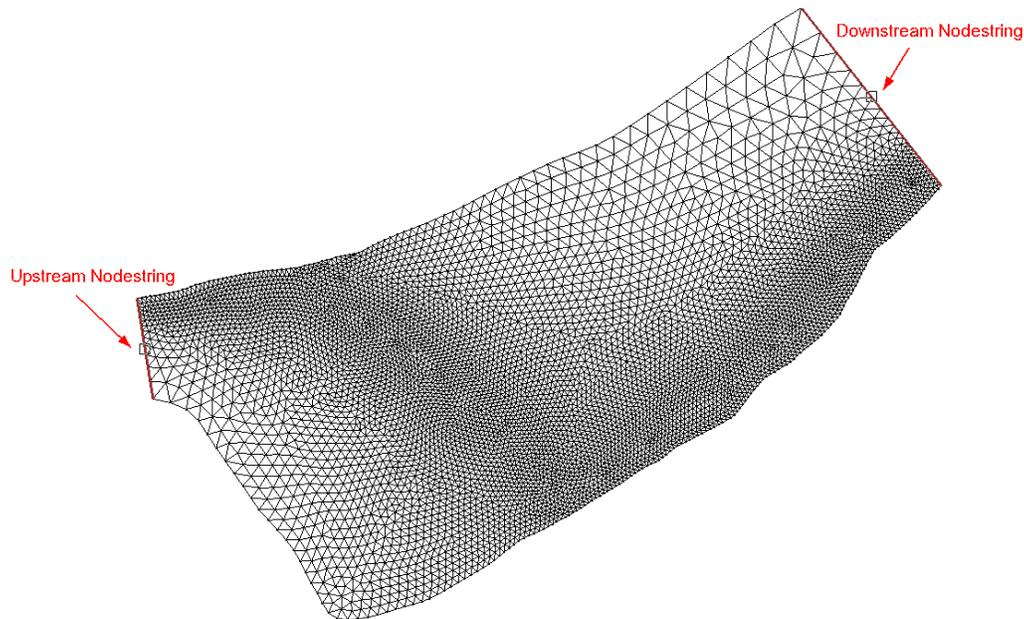

Figure 3 Nodestring Locations
3. Create nodestrings at the upstream and downstream boundaries as shown in Figure 3. Be sure to include all nodes along the boundary in the nodestrings (you can use all the nodes along the boundary by holding down the shift button).